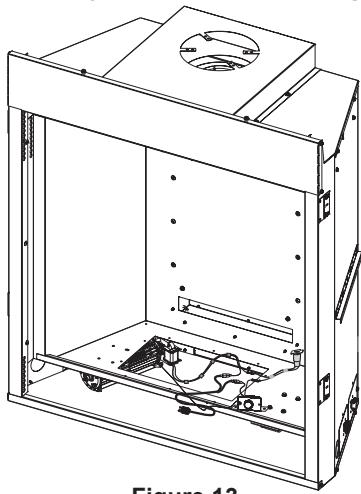

Figure 13
10. Install blower through firebox cutout. **See Figure 13.**